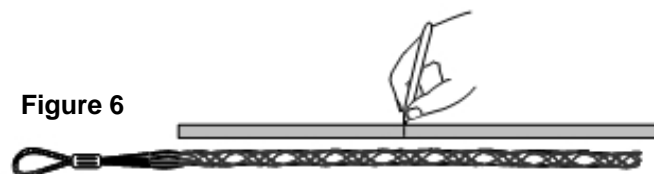

Figure 6
4.5 It is necessary to remove a section of outer jacket equal to half of the length of the mesh area of the grip. Mark this distance from the end of the cable with a permanent marker (Figure 6)